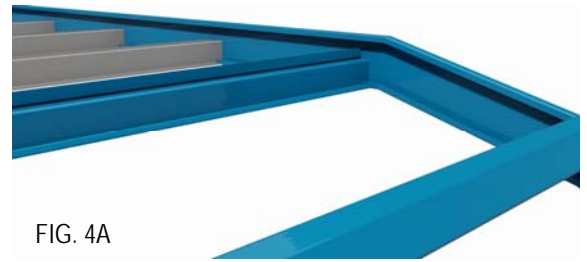

FIG. 4A
**In the case of a “Knuckle Front” option**, you will have a (usually painted) cross member with a “J” shaped piece attached. This Knuckle Cross Member is used as the transition piece between the Flo-Trak (or Flo-Bed) and the galvanized steel picking tray. It will be installed with the higher side of the “J” facing the front (pick side) of the shelf (as shown in figure 4A).